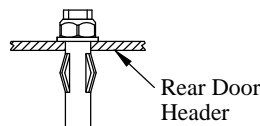

Figure 12: Assembled Plusnut.
10. **Insert** the Plusnut into the 5/16" drilled hole (Figure 12).